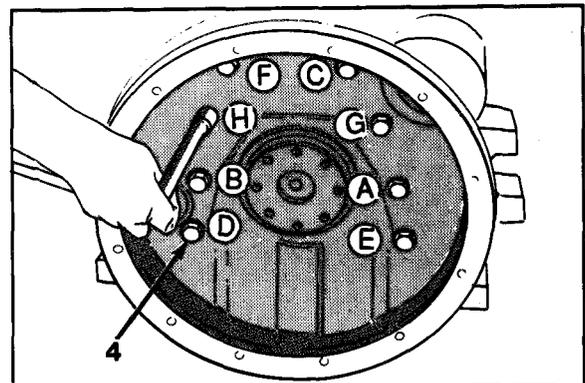

Figure 6-3
2. Torque eight capscrews (4, Figure 6-3) in sequence to 57 lb-ft (77 N•m).